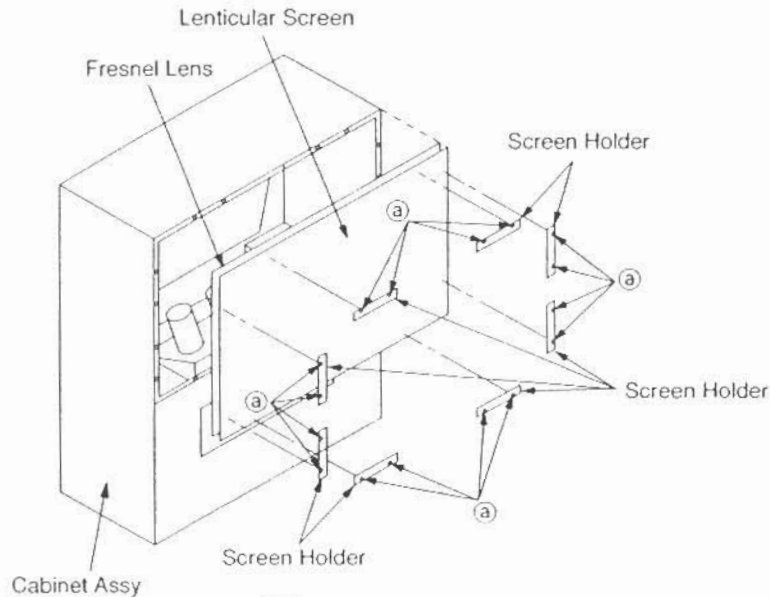

FIG. 4-1
1. Remove the 16 screws (a) fastening the screen holder. (FIG. 4-1)
3. Fasten 16 screws (a) attach the screen holder. (FIG. 4-1)